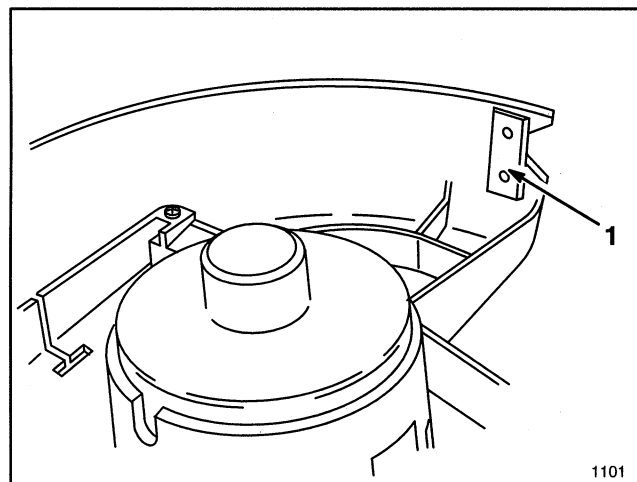

Figure 9
1. Self-tapping screw (2)
3. Remove tape from cutting knife on grass shield (Fig. 9).